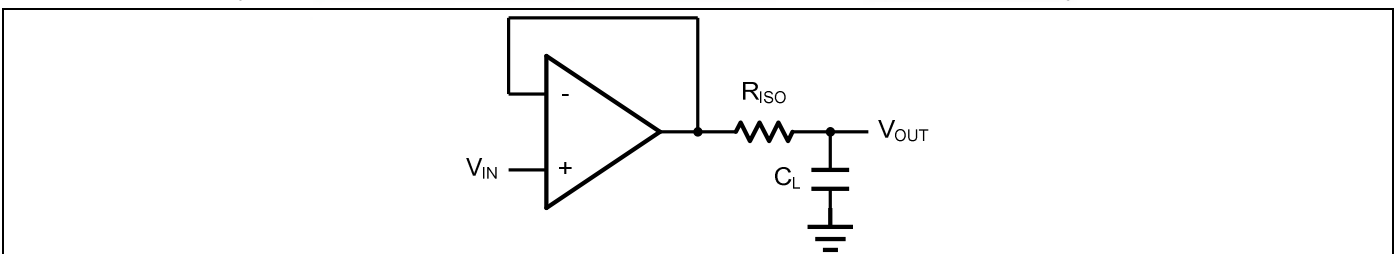
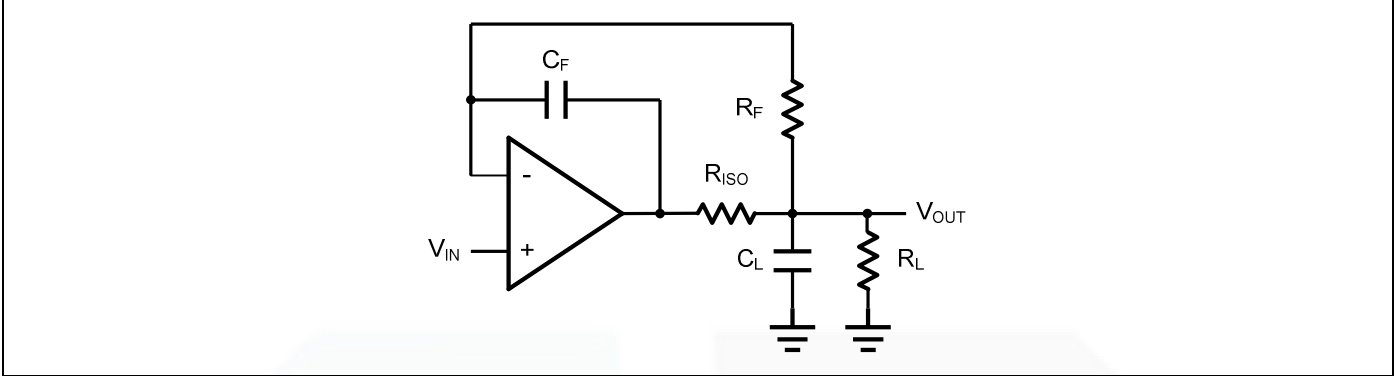

Figure 2. Indirectly Driving a Capacitive Load Using Isolation Resistor
Figure 3. Indirectly Driving a Capacitive Load with DC Accuracy
The GS833x family is optimized for bandwidth and speed, not for driving capacitive loads. Output capacitance will create a pole in the amplifier's feedback path, leading to excessive peaking and potential oscillation. If dealing with load capacitance is a requirement of the application, the two strategies to consider are (1) using a small resistor in series with the amplifier's output and the load capacitance and (2) reducing the bandwidth of the amplifier's feedback loop by increasing the overall noise gain. Figure 2. shows a unity gain follower using the series resistor strategy. The resistor isolates the output from the capacitance and, more importantly, creates a zero in the feedback path that compensates for the pole created by the output capacitance.
The circuit in Figure 3 is an improvement to the one in Figure 2. R_{F} provides the DC accuracy by feed-forward the V_{IN} to R_{L} . C_{F}